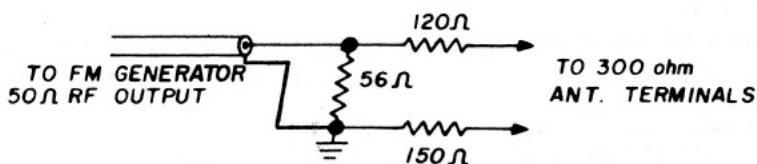

Figure 5
1. Set the SELECTOR switch to FM. Connect an FM generator to the 300 ohm antenna terminals using a matching transformer with a 1:1 voltage ratio or, if necessary, use a 2:1 ratio resistive network as shown below in Figure 5.